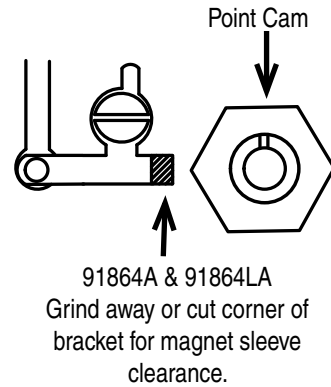

Figure 1
5. The Ignitor does not require any modification to the distributor. Therefore the point, condenser and hardware can be used as backup. **Note:** 91864A & 91864LA require a minor modification. See Figure 1.
**Note:** Part numbers 91864A & 91864LA modification required. (See Figure 1).